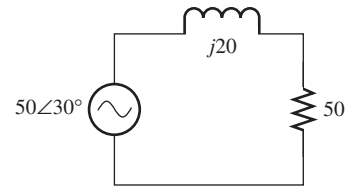

FIGURE P6.61 Circuit for Problem 6.61.
- 6.61** (A) Find the real, reactive, and apparent power drawn by the circuit, and the power factor for Figure P6.61.